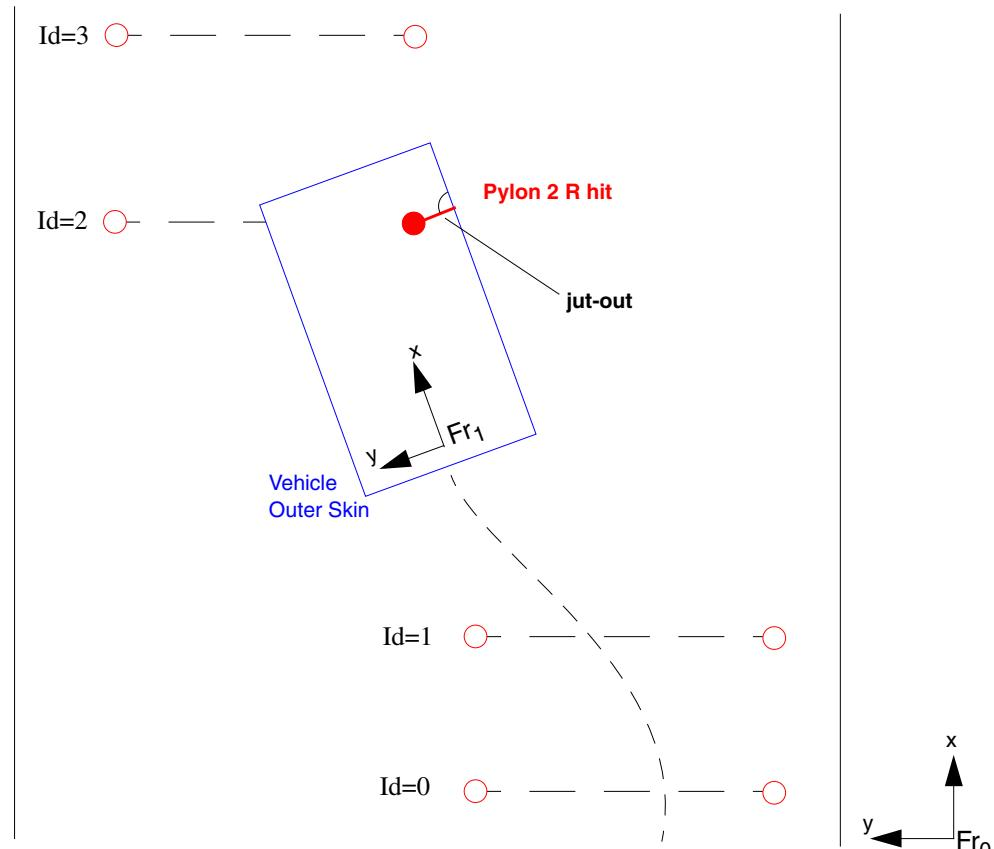

Figure 28.2: Pylon detection
- for the calculation of the jut-out the vehicle outer skin is taken (see Figure 28.2).